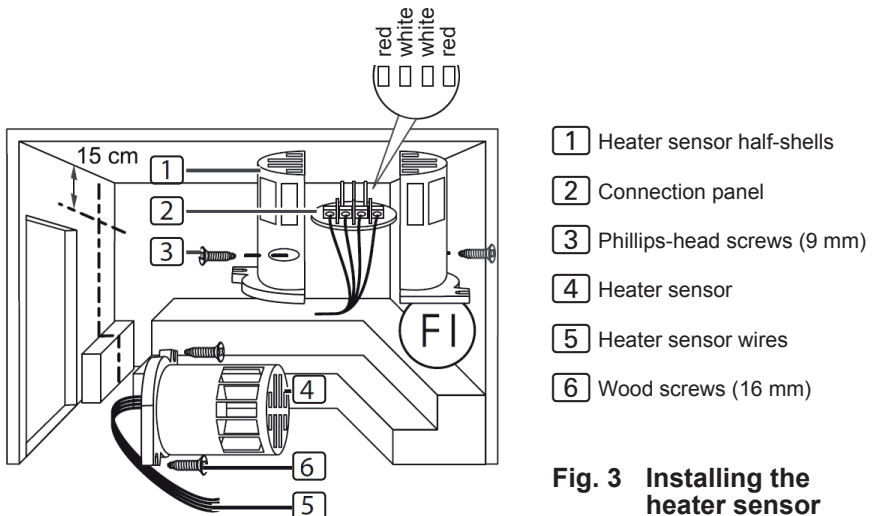

Fig. 3 Installing the heater sensor
To install the heater sensor, perform the following steps (see **Fig. 3**):
3. Connect the four connectors for the heater sensor wire **5** in accordance with the **Fig. 3**.
4. Place the connection panel **2** crossways (as shown in **Fig. 3**) in the heater sensor half-shells.